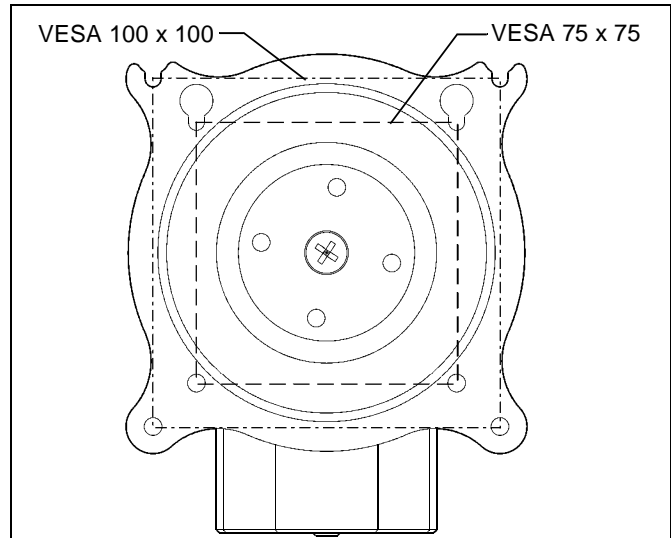

Figure 3
1. Determine mounting pattern on display. (See Figure 3)